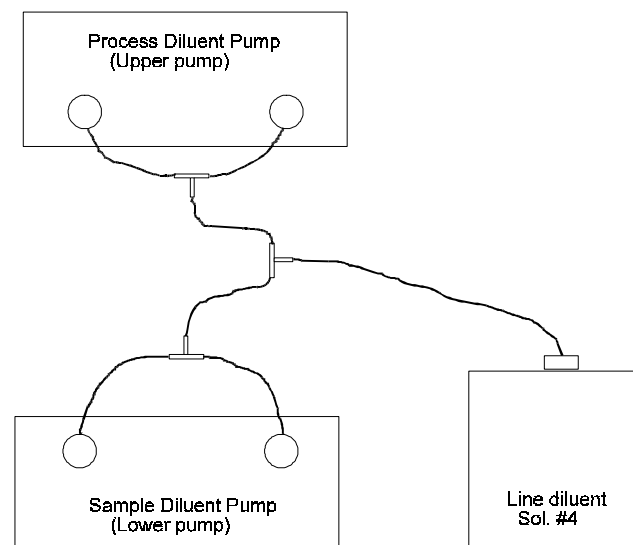

Figure 3 - Diluent Pump Inlet Tubing Routing
IMPORTANT: Review Figure 3 before attaching any tubing to the diluent pump (front) input side. Once any of the new tubing is installed it cannot be removed. It is a very tight fit. Cutting the tubing back off makes it too short! (It may be helpful to use Figure 3 and label the tubing "upper" and "lower" before continuing.)
10. Using Figure 3, install the correct ends of the Buffer Supply tubing set to the inlet ports on the sampling pump. Hold the back of the pump while installing the tubing. Push the polyurethane tubing completely onto the inlet ports. Wetting the tubing with DI water can be helpful in installing the tubing.
18. Before securing the upper (processing) diluent pump to the Supply Center wall, install two (2) new inlet ports to the input (front) side of the pump. Tighten the inlet port barbed fittings "finger tight." Then use a 5/16" nut driver (or small crescent wrench) and tighten both fittings 1/8 to 1/4 turn.
19. Using Figure 3, install the correct ends of the Buffer Supply tubing set to the inlet ports on the processing pump. Hold the back of the pump head while installing the tubing. Push the polyurethane tubing completely onto the inlet ports. Wetting the tubing with DI water can be helpful in installing the tubing.